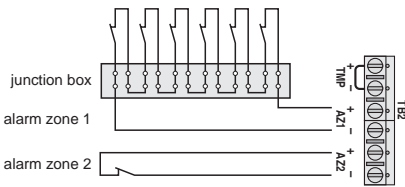

Fig. 6 Opening detectors (reed contacts) for windows and doors
Fig. 6 shows the connection of opening sensors on the next page.
1. When connecting several detectors to an alarm zone, use a junction box (see fig. 6, alarm zone 1).